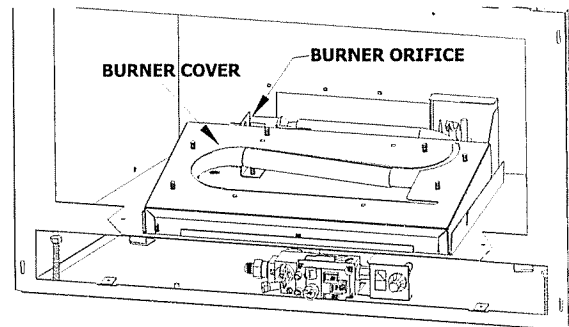

Figure C-2
2. MILLIVOLT BOARD. Figures C-2 & C-3.
- A. Remove the burner cover by lifting the front of the cover up, then carefully sliding the burner tube off the orifice. Remove entire assembly from the firebox (Figure C-2)